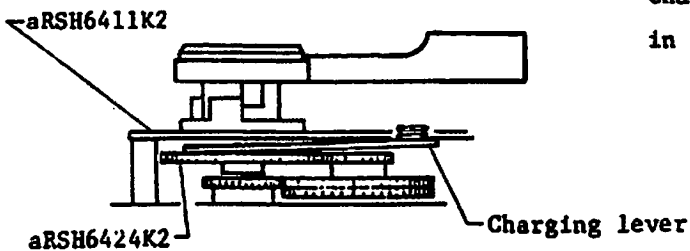

Fig. 126
(2) Winding gear No. 1 (aRSH6424K2) and Base plate (aRSH6411K2) shall not prevent Charging lever from operating as shown in Fig. 126.